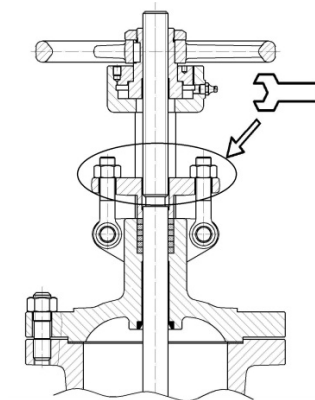

Fig. 2 Stem packing gland tightening
- The valve stem packing should be the subject of particular attention as it is important for the qualitative maintenance of tightness and should be periodically checked. If leakage at the stem packing is detected, the gland nuts should be tightened slowly (Fig. 2). When gland nuts are tightened, if the gland falls down more than twice the packing ring height, new packing rings should be added to the stem packing.